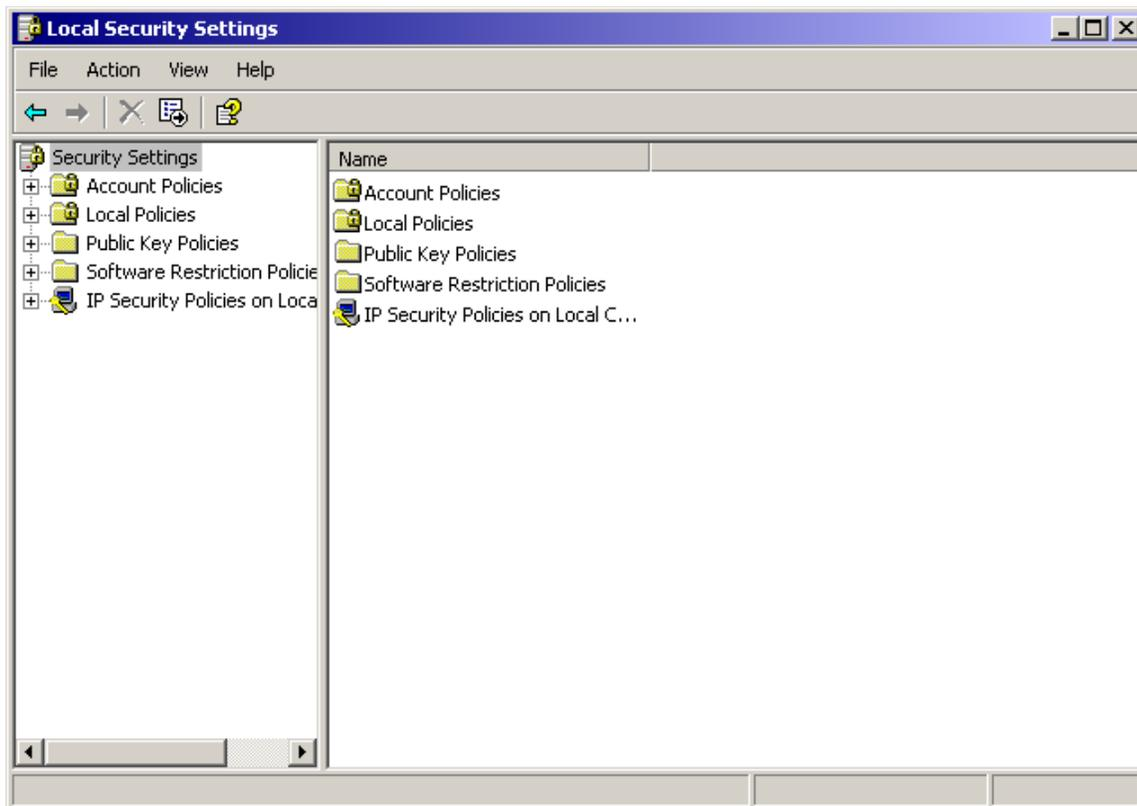

FIGURE 128. Local Security Settings window
6. The Local Security Settings window appears with the various security settings as in Figure 128.